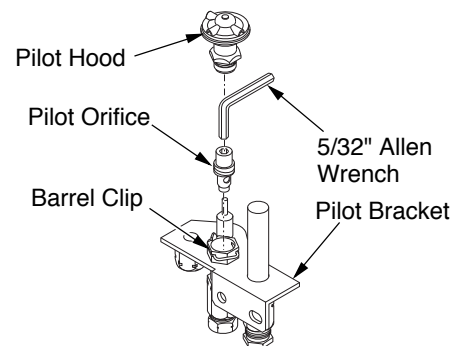

Figure 34 - Converting Pilot
1. Wait five (5) minutes to clear out any gas. Smell for any gas odor, especially near the floor. If any gas odor is present, STOP! See *For Your Safety Read Before Lighting* on page 12.
7. Remove pilot hood by pulling up until it disengages from barrel. Do not remove the retainer clip (see Figure 34).